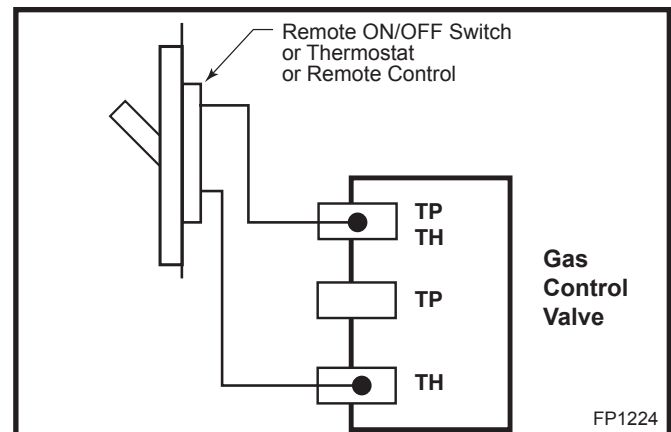

Fig. 6 Remote switch wiring diagram.
3. Attach the wire to an ON/OFF switch and install the switch into the receptacle box. (Fig. 6)